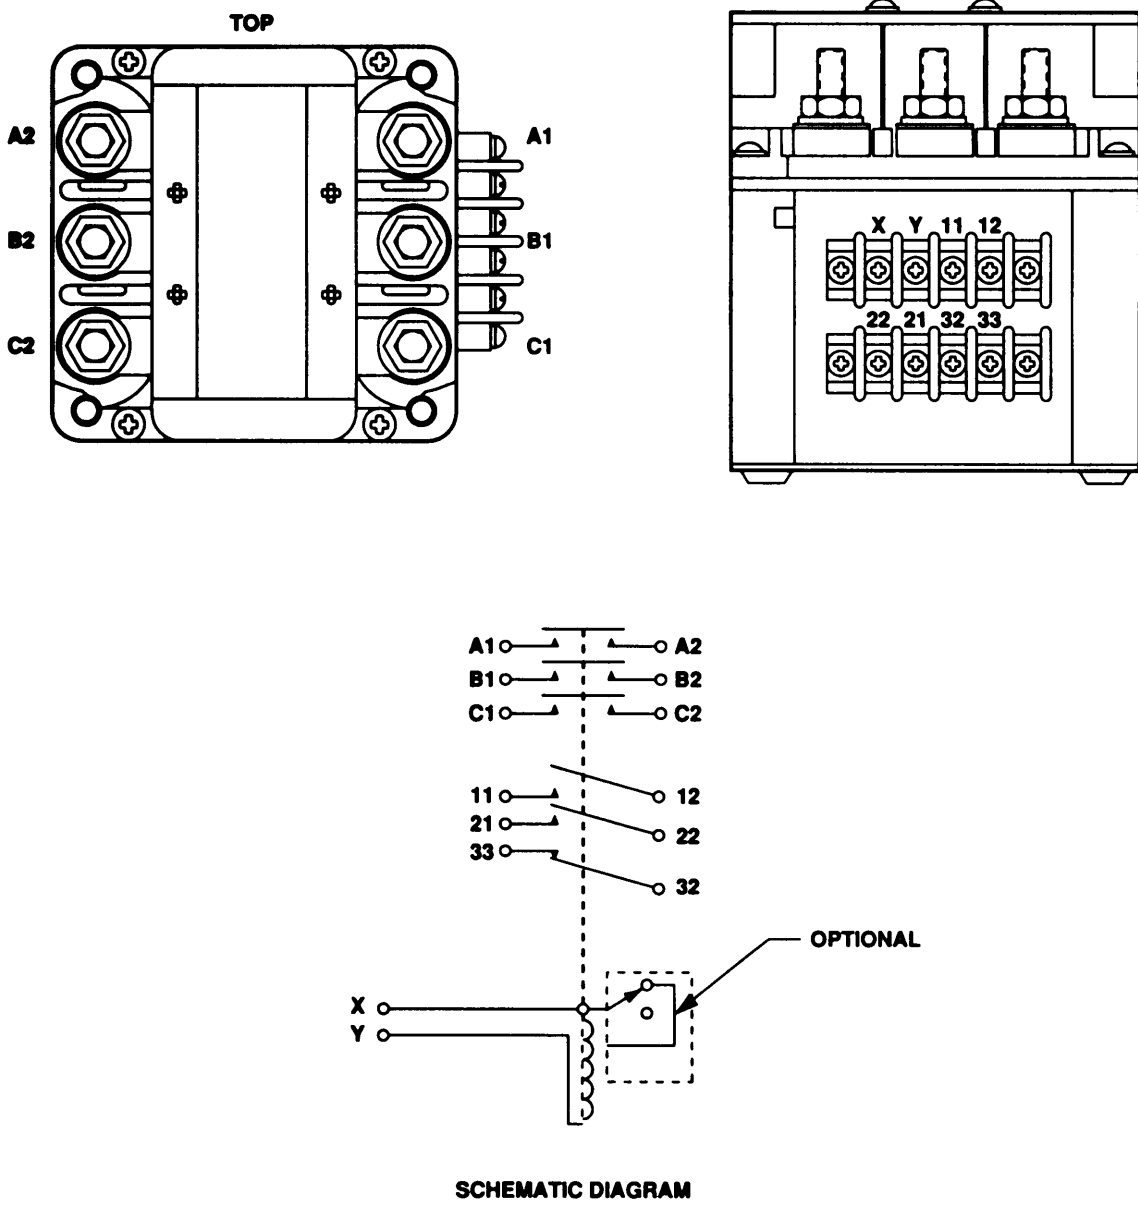

Figure 5-12. Connector Test Points.
a. Using a multimeter, test contactor K1 (16) as follows:
(1) Refer to figure 5-12 and perform following continuity checks. If any multimeter indication is not correct, replace contactor (paragraph 5-12).